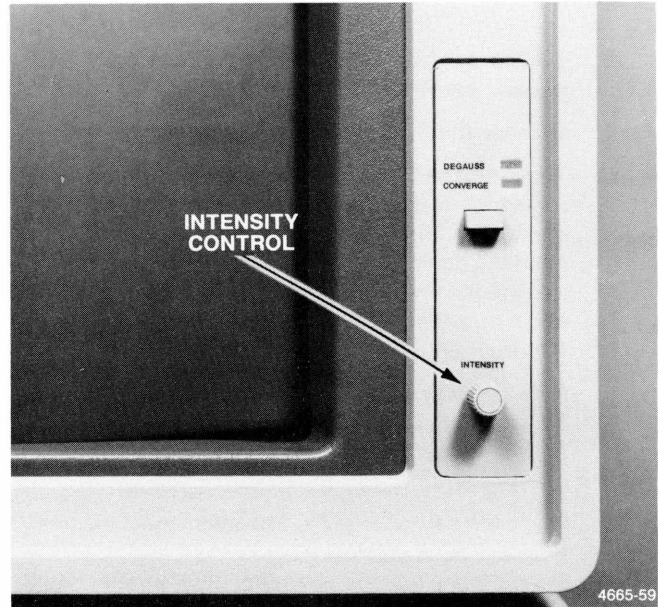

Figure F-5. INTENSITY Control.
7. The brightness of the display is controlled by the INTENSITY control (Figure F-5). Turn the knob to the right to make the display brighter, to the left to make it dimmer. Set the brightness to a desirable level.